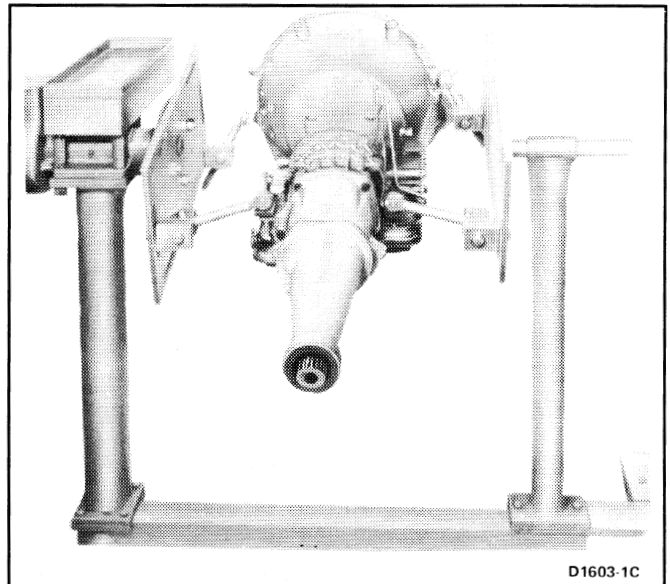

FIG. 16 Transmission Mounted in Holding Fixture
1. Remove the converter, and mount the transmission in holding fixture Rotunda Model 014-00106 or equivalent, (Fig. 16).
28. Install Tool 4201-C at the seventh pump mounting bolt (Fig. 16) and check the transmission end play as in steps 4, 5 and 6 of Disassembly. (See specifications at the end of this Section.) Remove the tool.